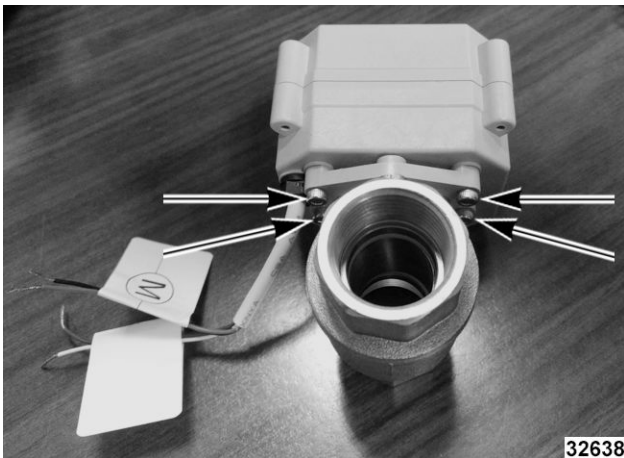

Fig. 68
- Remove 2.5mm screws (Fig. 68).